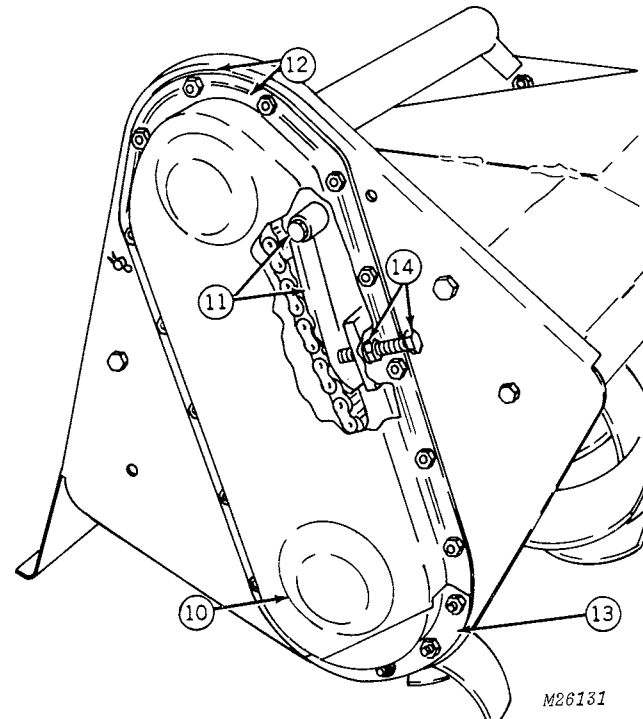

Fig. 12-Installing Drive Chain Cover
11. Install long bolt and chain tensioner in cover, Fig. 12.